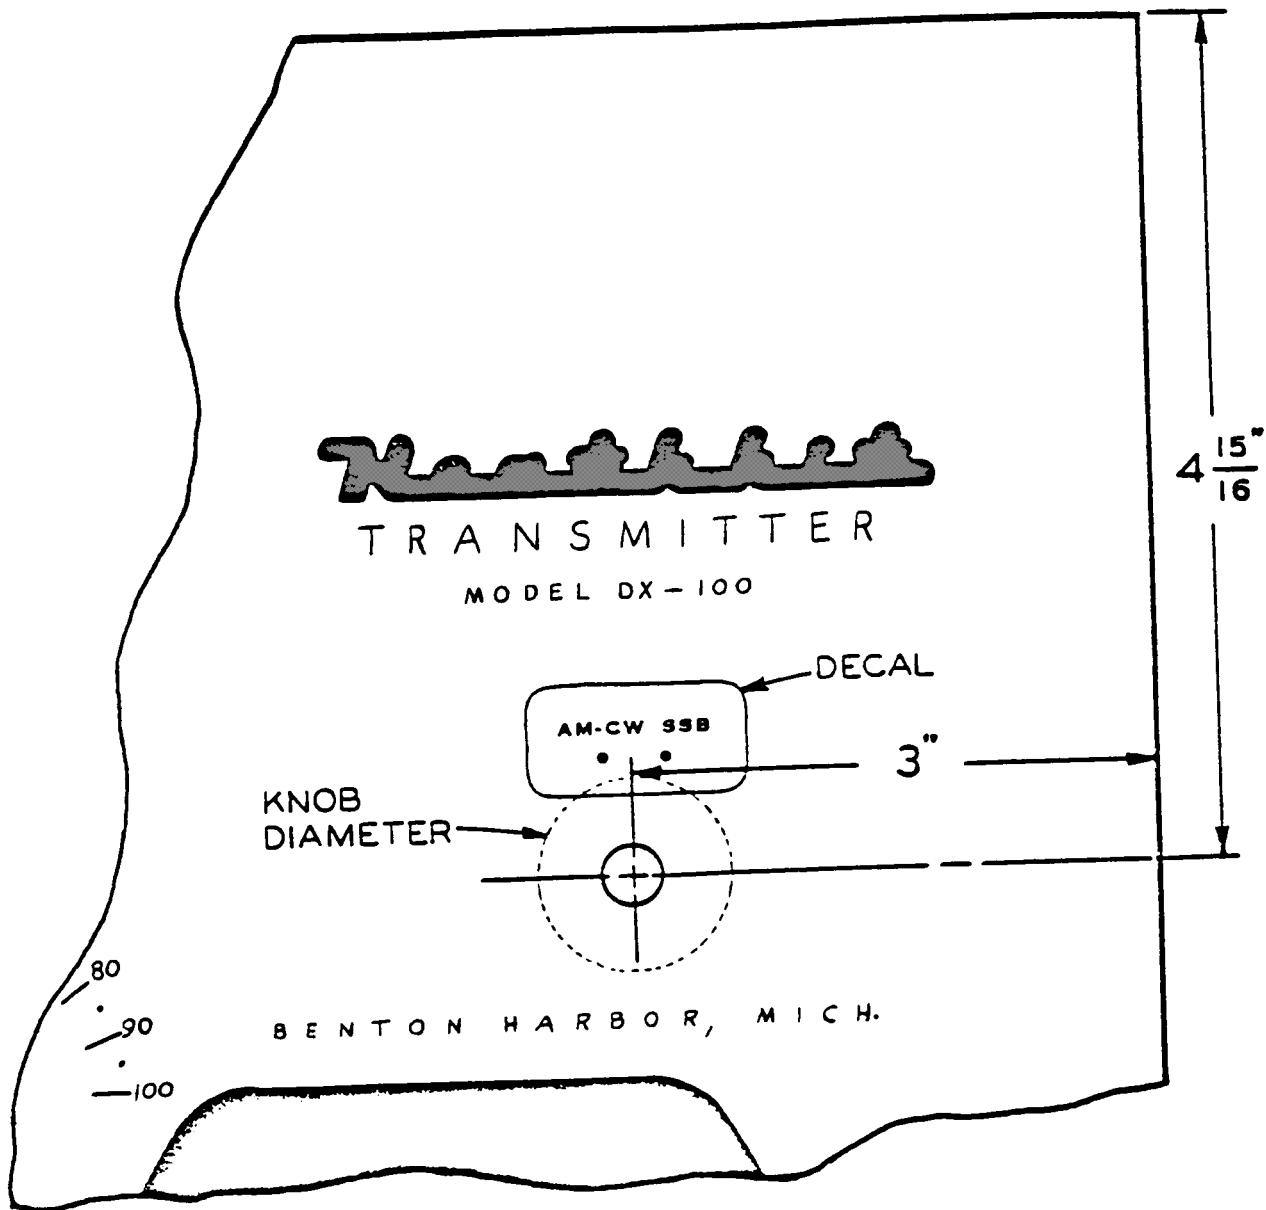

Figure 1
- () Referring to Figure 1, drill a 3/8" diameter hole in the front panel at the location indicated. If the transmitter has previously been modified for grid block keying per Heath instructions, then drill this hole at a convenient location near the pushbutton switch already installed at this point. Be sure to allow enough distance between the two switches for clearance behind the panel. Drill a 1/4" hole first and use either successively larger drills, a taper reamer, or a rat-tail file to enlarge this pilot hole to 3/8" diameter. Be careful not to damage this filter capacitor directly behind the panel.